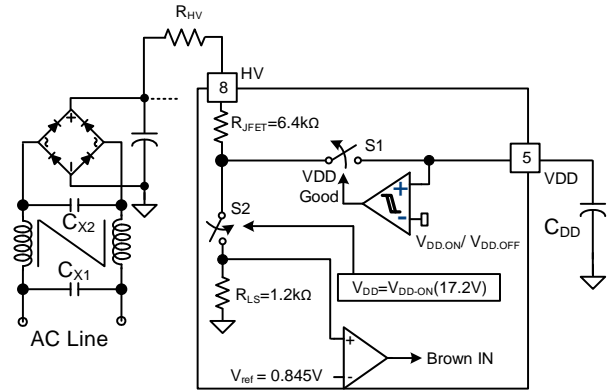
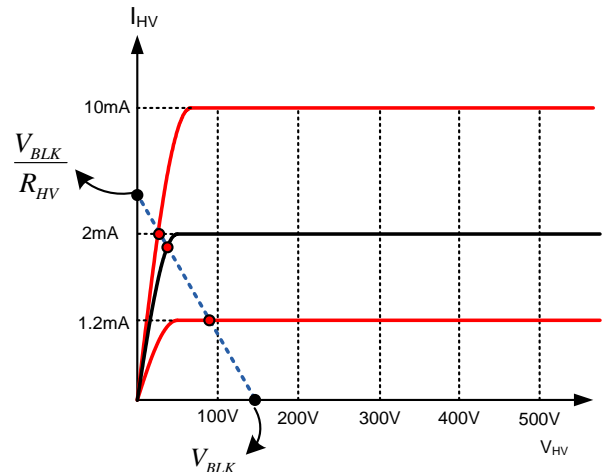

Figure 31 HV Startup Circuit
Figure 32 Characteristics of HV pin
Figure 31 shows the high-voltage (HV) startup circuit. An Internal JFET provides a high voltage current source, whose characteristics are shown in Figure 32. To improve reliability and surge immunity, it is typical to use a R_{HV} resistor between the HV pin and the bulk capacitor voltage. The actual current flowing into the HV pin at a given bulk capacitor voltage and startup resistor value is determined by the intersection point of characteristics I-V line and the load line as shown in Figure 32.
During startup, the internal startup circuit is enabled and the bulk capacitor voltage supplies the current, I_{HV} , to charge the hold-up capacitor, C_{VDD} , through R_{HV} . When the V_{DD} voltage reaches V_{DD-ON} , the sampling circuit shown in Figure 31 is turned on for t_{HV-det} (100 μ s) to sample the bulk capacitor voltage. Voltage across R_{LS} is compared with reference which generates a signal to start switching. If brown-in condition is not detected within this time, switching does not start. Equation 8 can be used to program the brown-in of the system. If line voltage is lower than the programmed brown-in voltage, FAN604 goes in auto-restart mode.